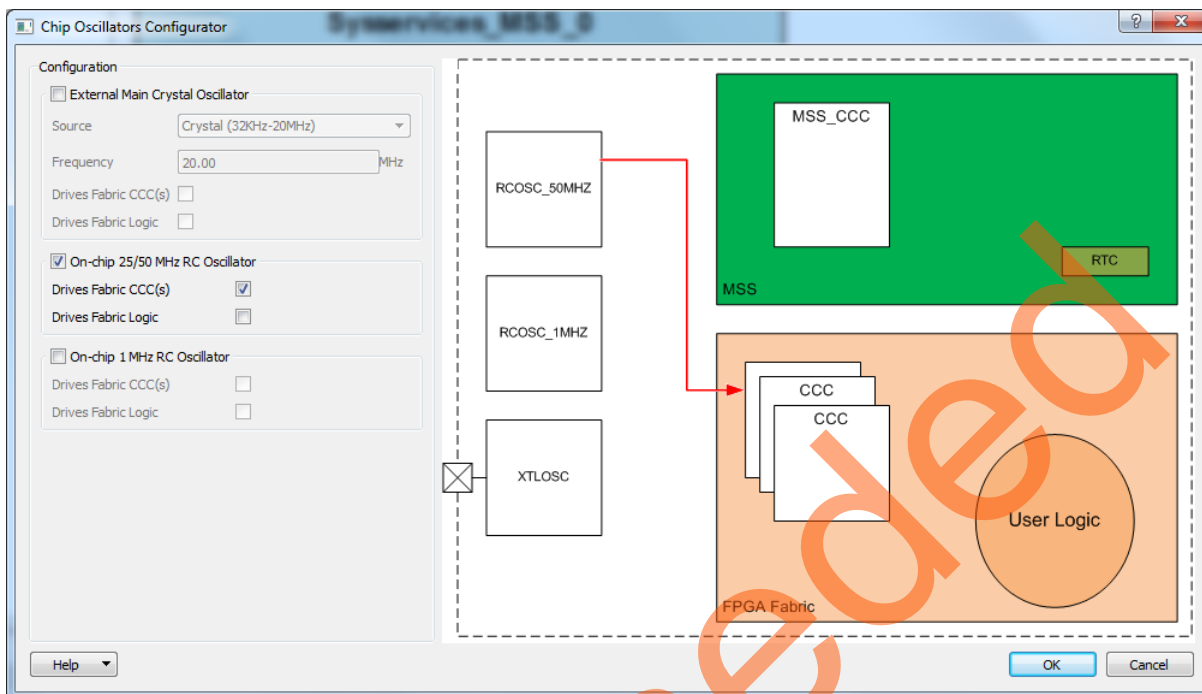

Figure 17 • Chip Oscillator Configurator
3. Double-click the **OSC_0** instance to open its **Configuration** window. Make the following selections, as shown in Figure 17 on page 16: